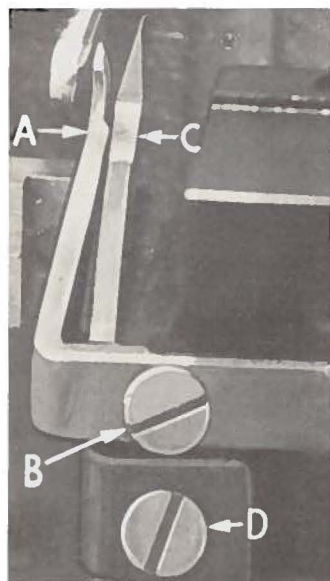

Fig. 6
Set rear needle guard (A, Fig. 6) as high as possible, without interfering with either lower looper or movement of lower knife holder, but still in position to deflect needle forward .002-.004 inch.
Assemble front needle guard (C, Fig. 6). When lower looper is springing needle off back guard, set front needle guard as close as possible to needle without touching. Screw (D) is used to adjust and set front needle guard. After this setting make sure there is no interference between needle guards and main feed dog.